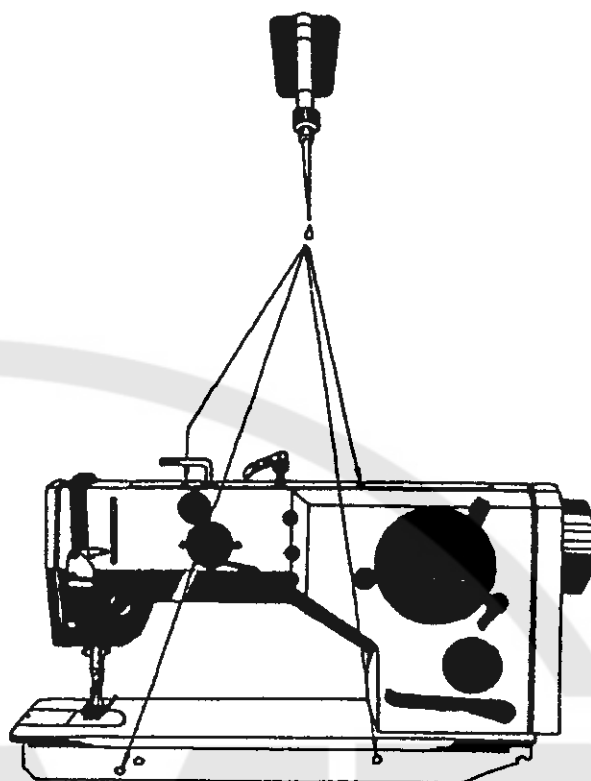

Fig. 1
5. To clean and lubricate the machine (Fig. 1, Tab. 12)